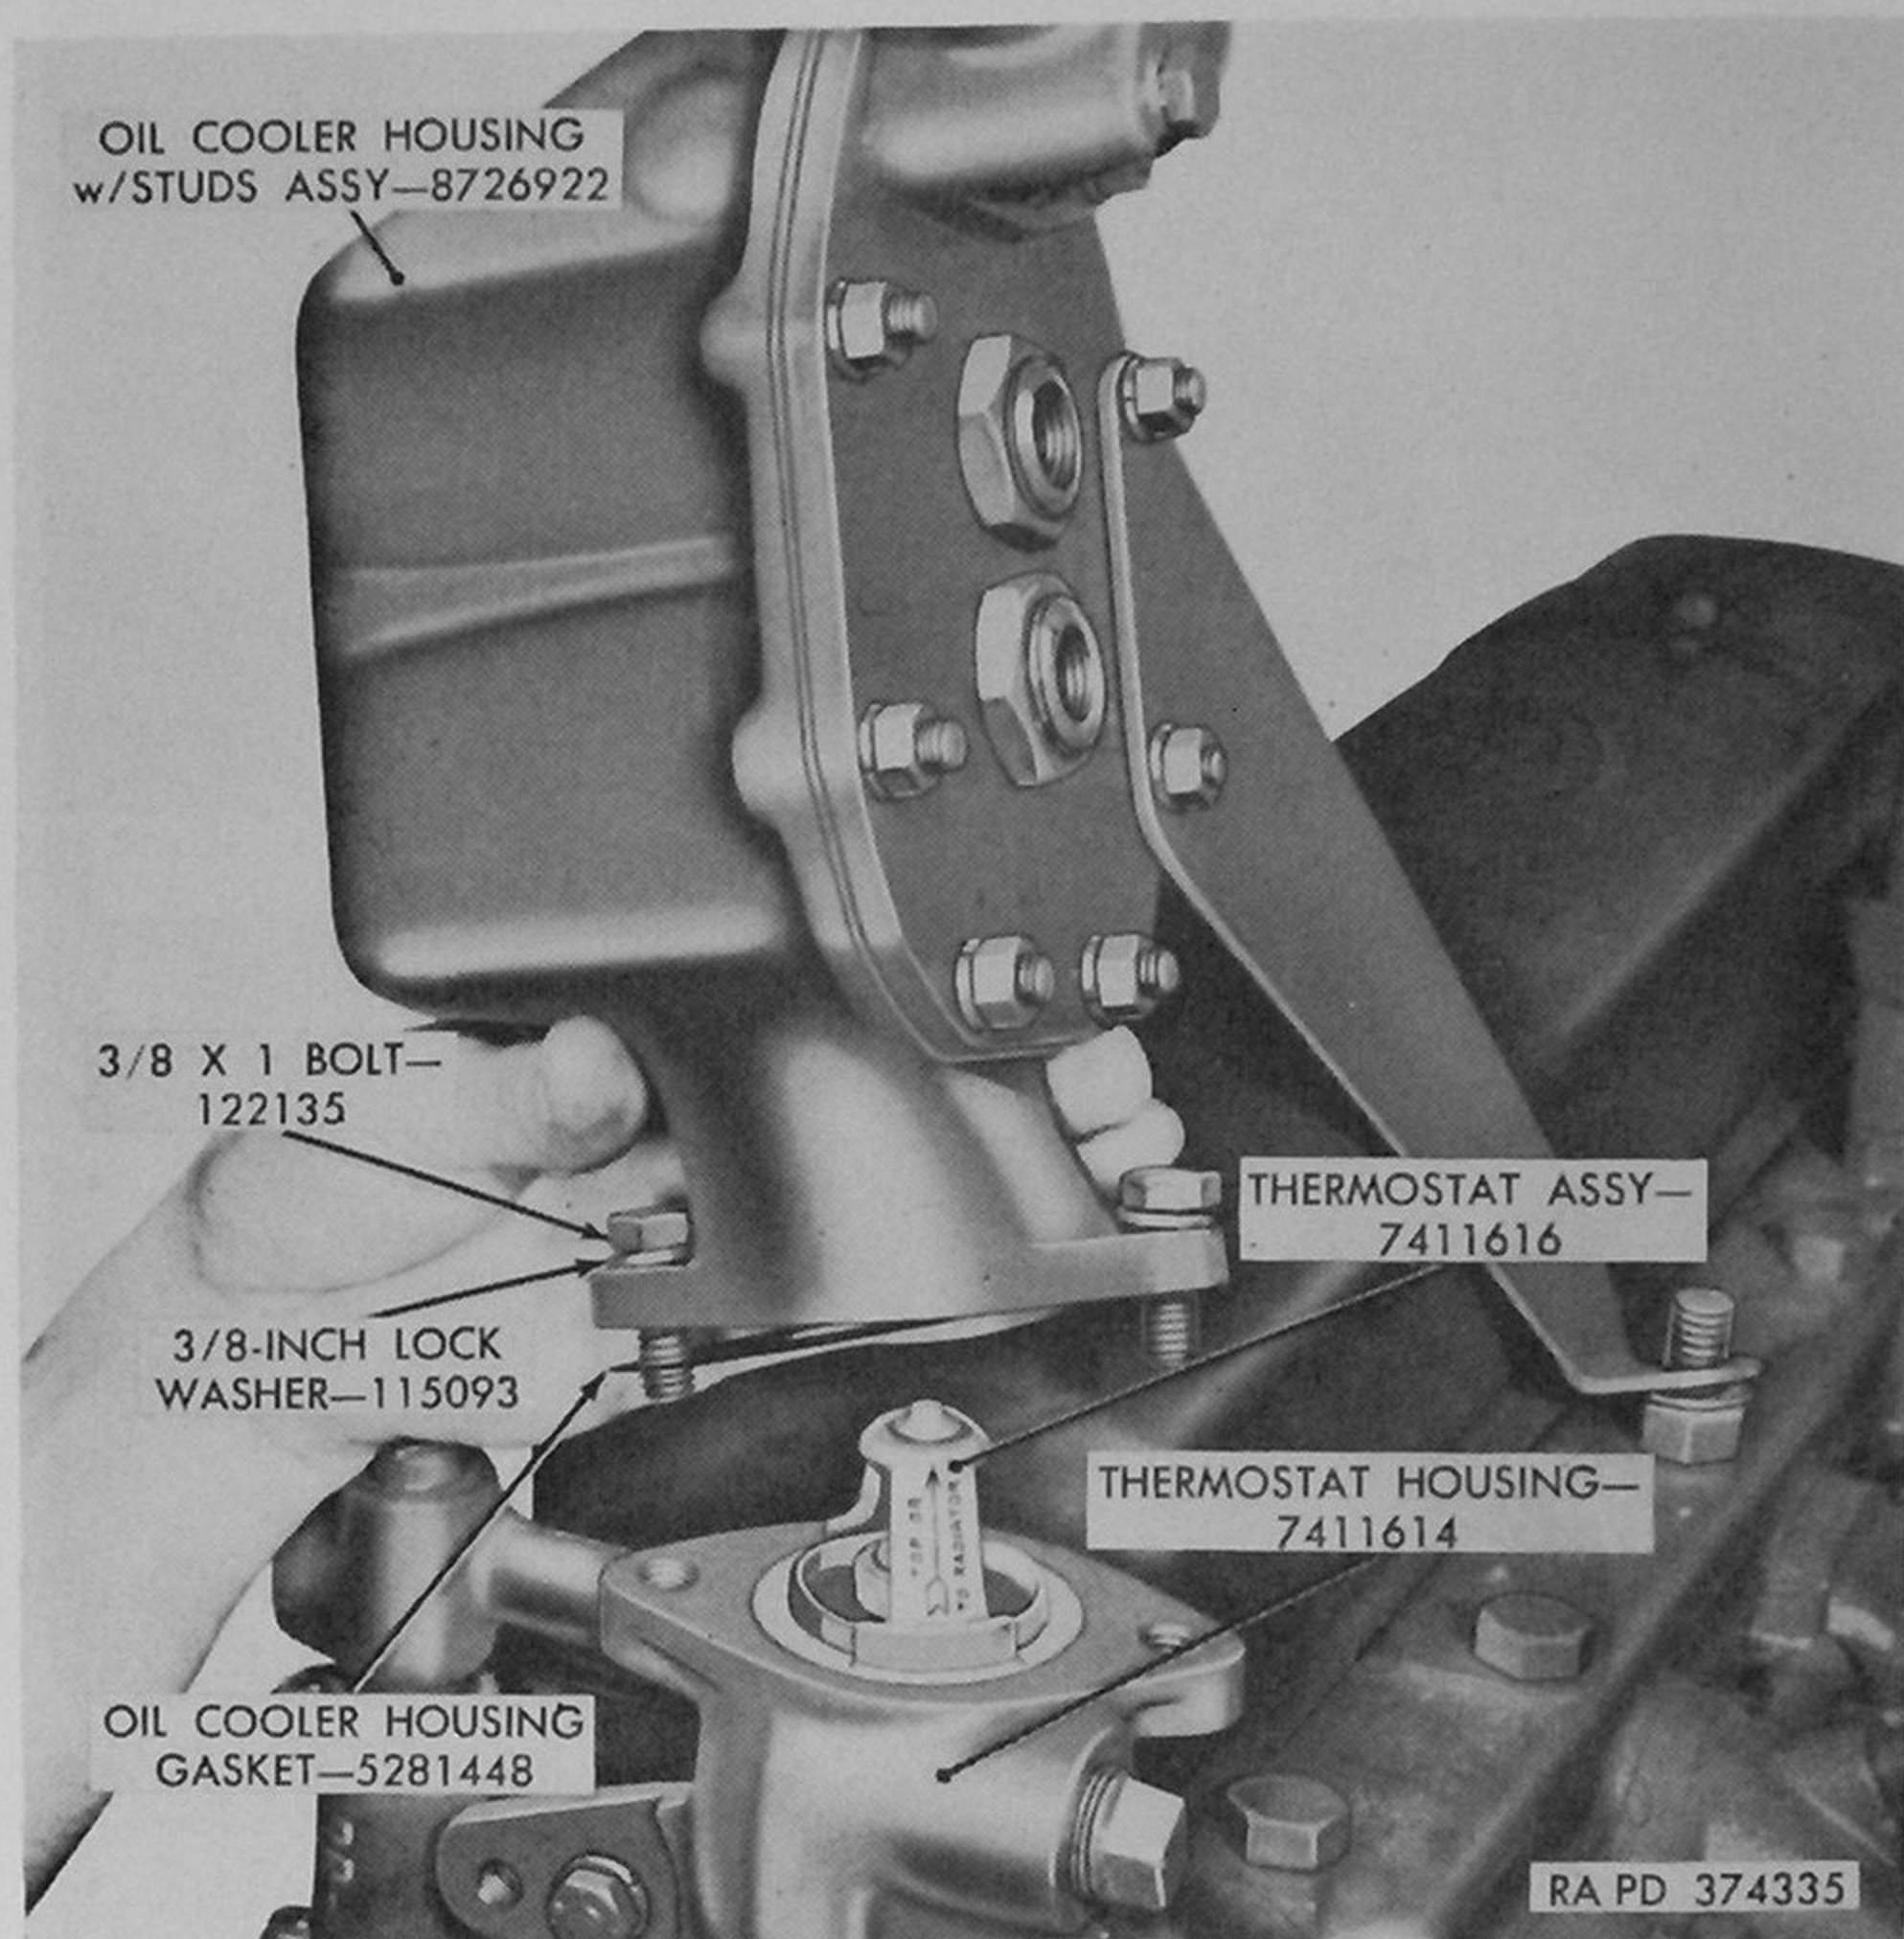

Figure 172. Removing or installing thermostat assembly—engine assembly 26920.
a. Place engine thermostat assembly (fig. 172) into thermostat housing with stamped arrow on thermostat pointing upward as shown. Place new oil cooler housing gasket (fig. 172) and oil cooler housing with attached housing bracket down over thermostat assembly with hole at end of housing bracket positioned over cylinder head stud. At-